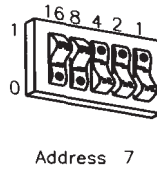

Figure 8-1.
- b. Set the address switches to 7 as shown in Figure 8-1, unless address 7 has been used elsewhere. Refer to the manual that came with the plotter if you need additional switch settings.